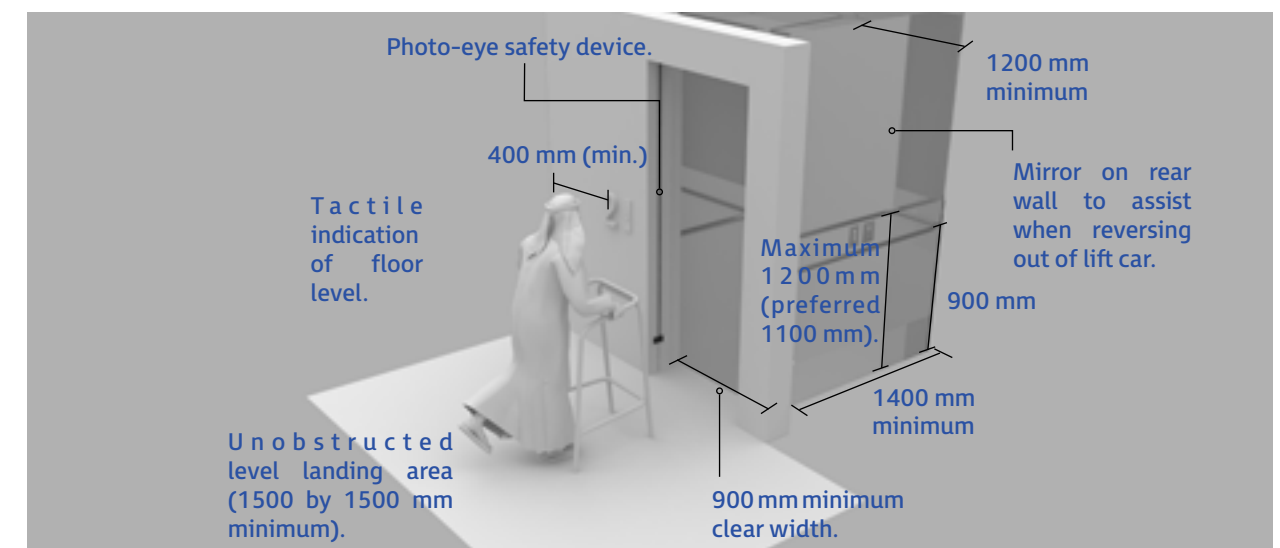

Figure 39 / lift dimensions
The provision of lifting devices (see figure 39) will satisfy the performance objectives if:
3. The lift lobby provides an unobstructed manoeuvring space of 1500mm x 1500mm as illustrated in figure 39.